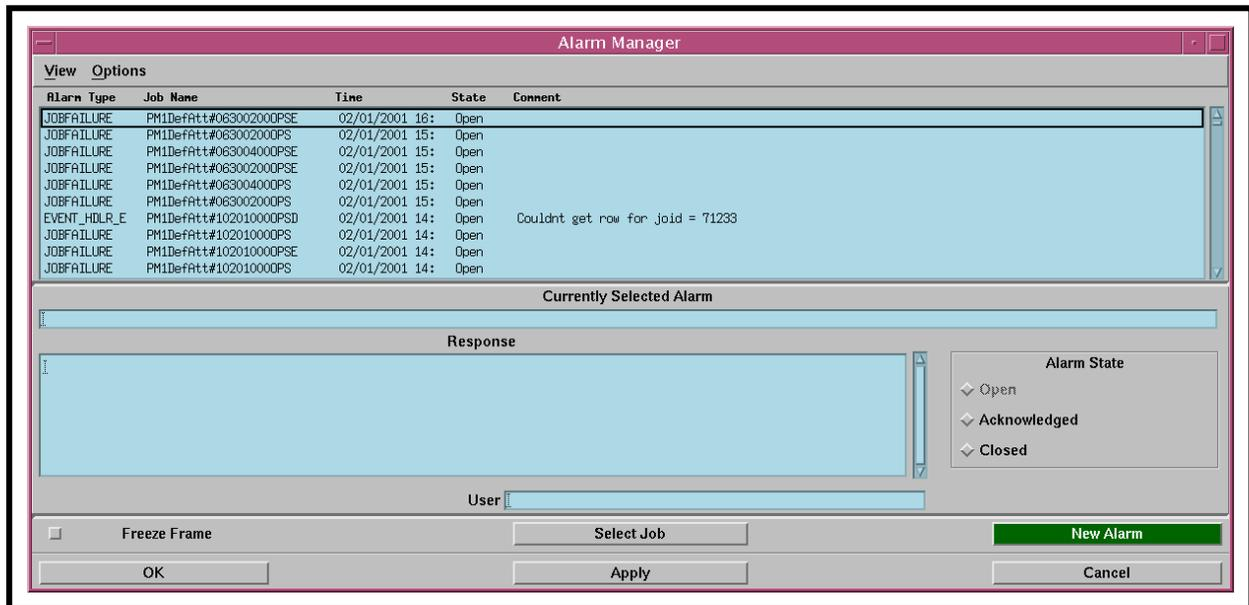

Figure 70. Alarm Manager GUI
- The **Alarm Manager** GUI (Figure 70) is displayed.